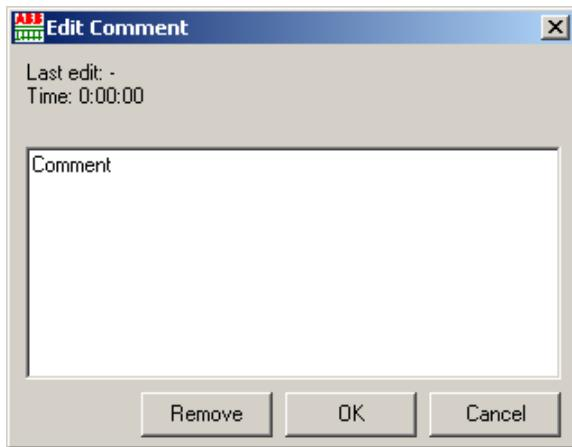

Figure 10: Adding comment to control dialog
1. Click the information symbol (i) in the control dialog to open the dialog, see Figure 10.